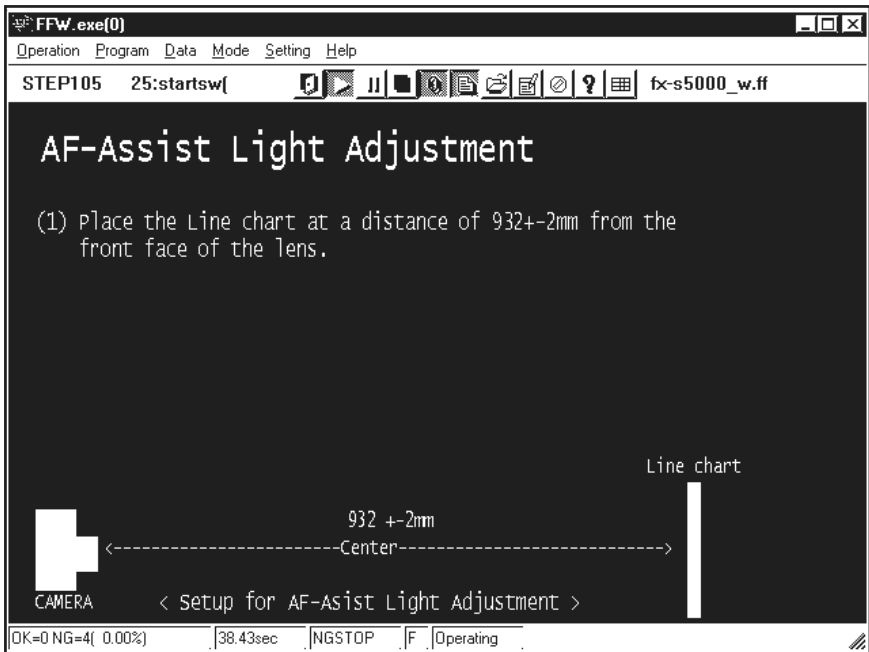

Fig.7
---> The [AF-Assist light adjustment Preparation Screen (Fig.7)] appears.